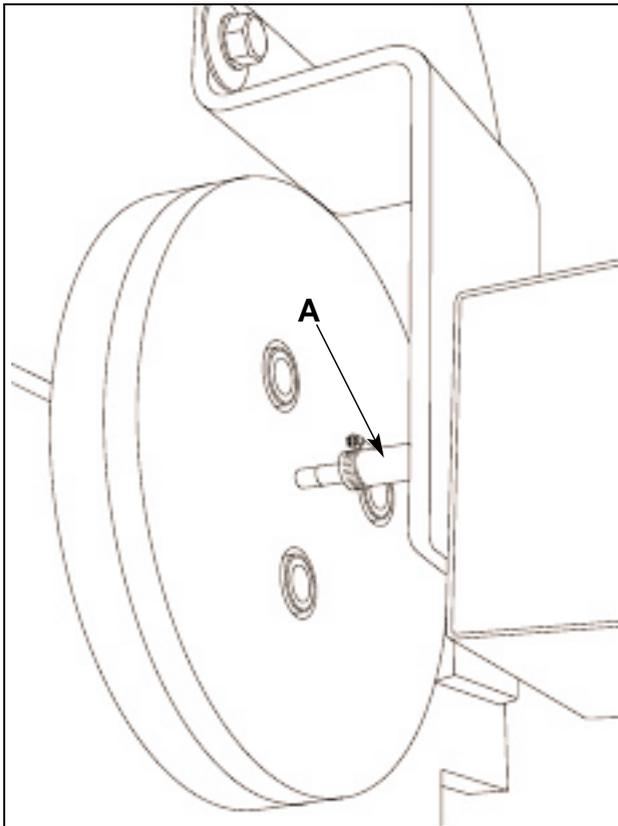

Figure 7.3 ROTARY SENSOR COUPLER
- 7.2 If the rotary sensor value shown in the screen is not 100°, loosen rotary sensor coupler (A) (as shown in figure 7.3) and make adjustment. To adjust, turn rotary sensor coupler until 100° is reached. Use the screen to monitor the rotary sensor. Make sure you tighten rotary sensor coupler before resuming adjustment.